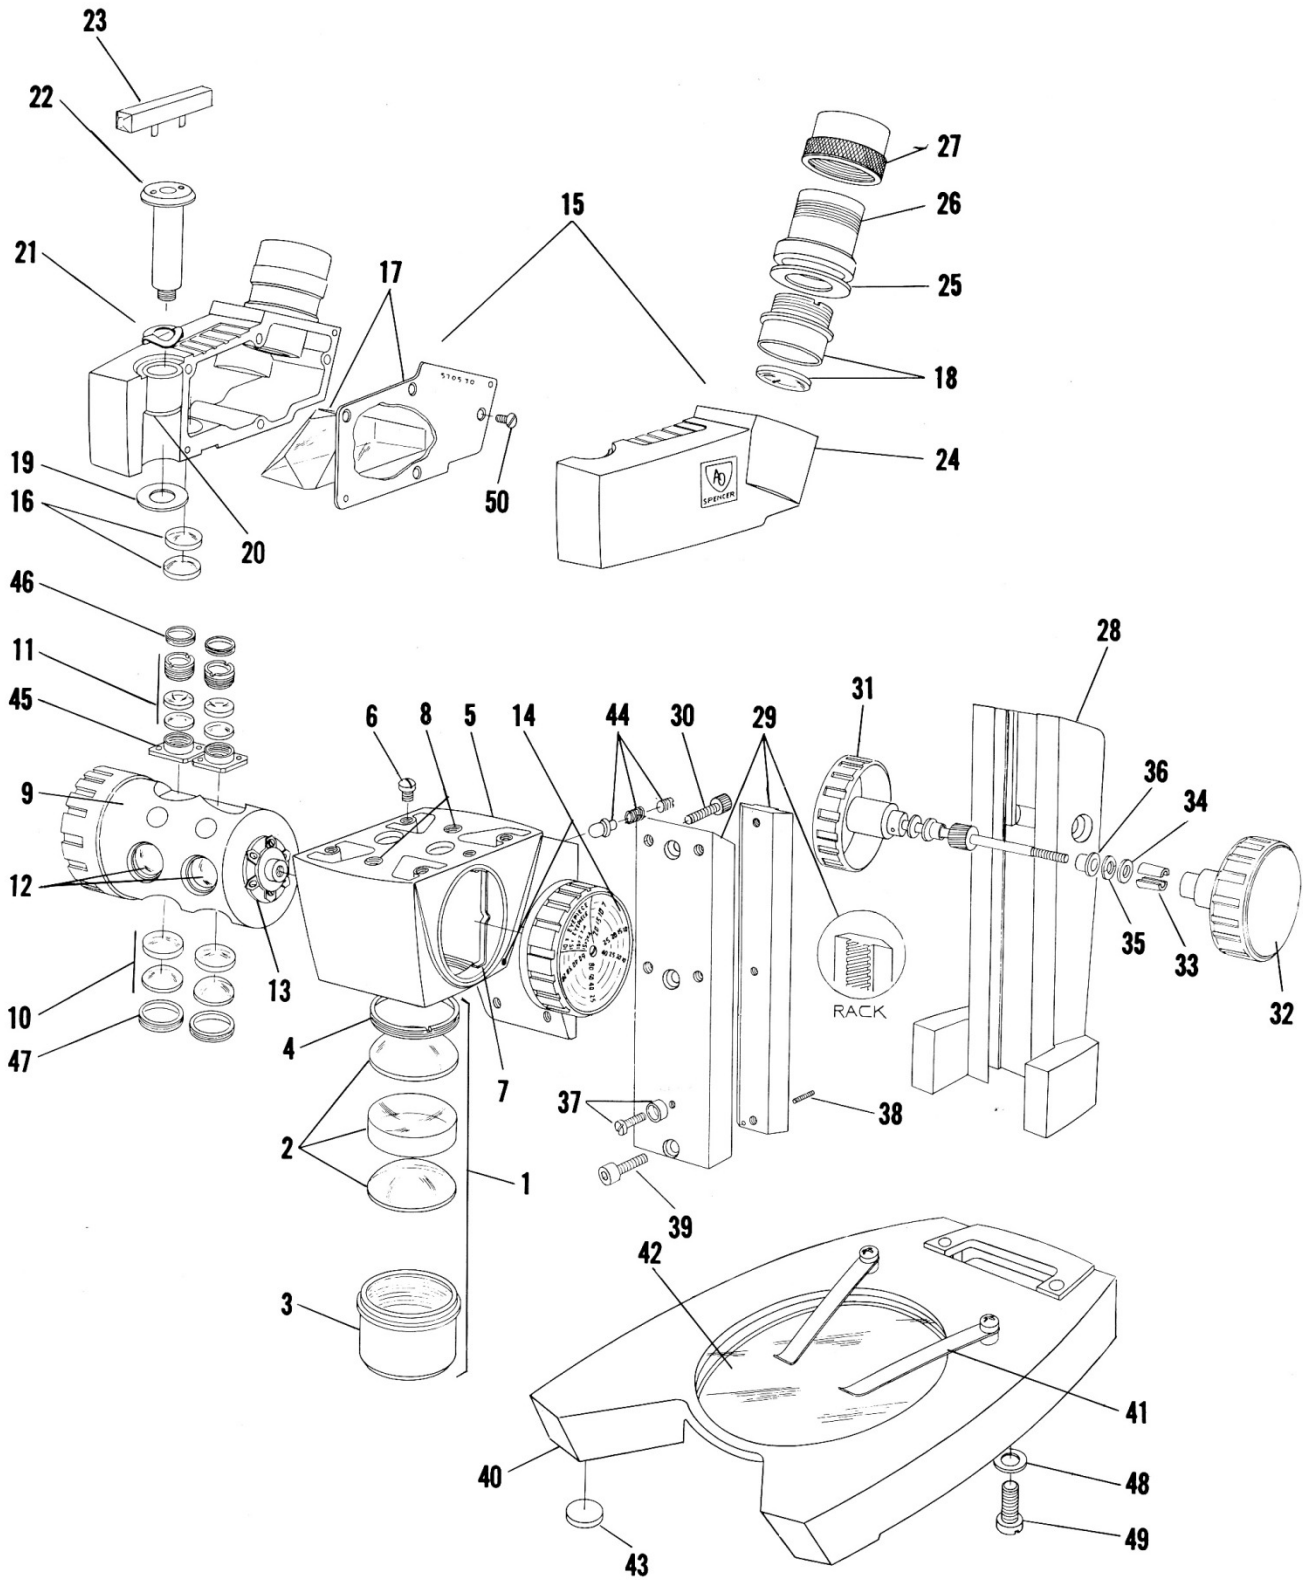

Figure 1. CYCLOPTIC Microscope with MAGNI-CHANGER
With right eye, focus microscope per above instructions. Turn OUT (counterclockwise) individual eyepiece focusing sleeve (27, Fig. 1) of left eye until the left image is out of focus. Then turn sleeve (27) IN (clockwise) until sharp focus is obtained with left eye. Keep eyepieces seated against focusing sleeve. Both eyes will now be comfortably focused on the specimen.